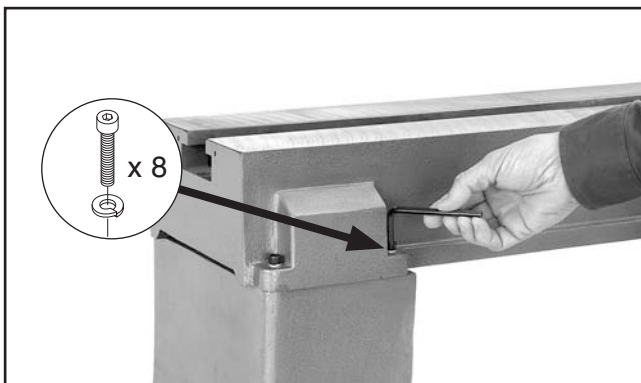

Figure 10. Securing lathe assembly.
3. Secure the lathe assembly to the stand legs with (8) M8-1.25 x 35 cap screws and 8mm lock washers, as shown in **Figure 10**.